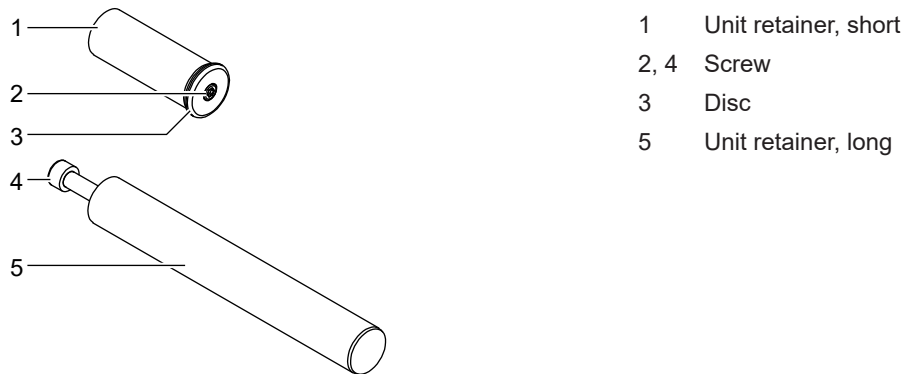

Figure 16 Overview, unit retainer, example
The dispensing angle can be adjusted using the tie rod. In addition, the spot of dispensing a label can be aligned on the unit retainers (▷Figure 16/1, 5).
The shorter unit retainer (▷Figure 16/1) is attached to the tie rod. The longer unit retainer (▷Figure 16/5) together with the bearing bush (3) is secured to a plate, a profile or on the column stand. The tie rod is swivel-mounted and is fixed with a screw (2).